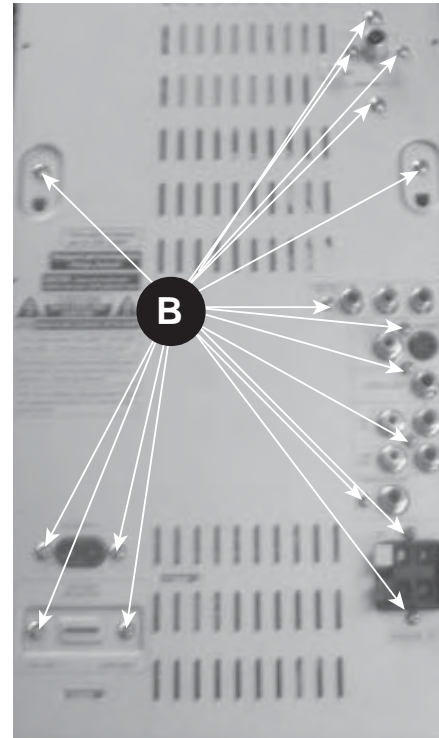

Figure 2
- 2) Loosen 18 screws "B" at the back panel as figure 2.